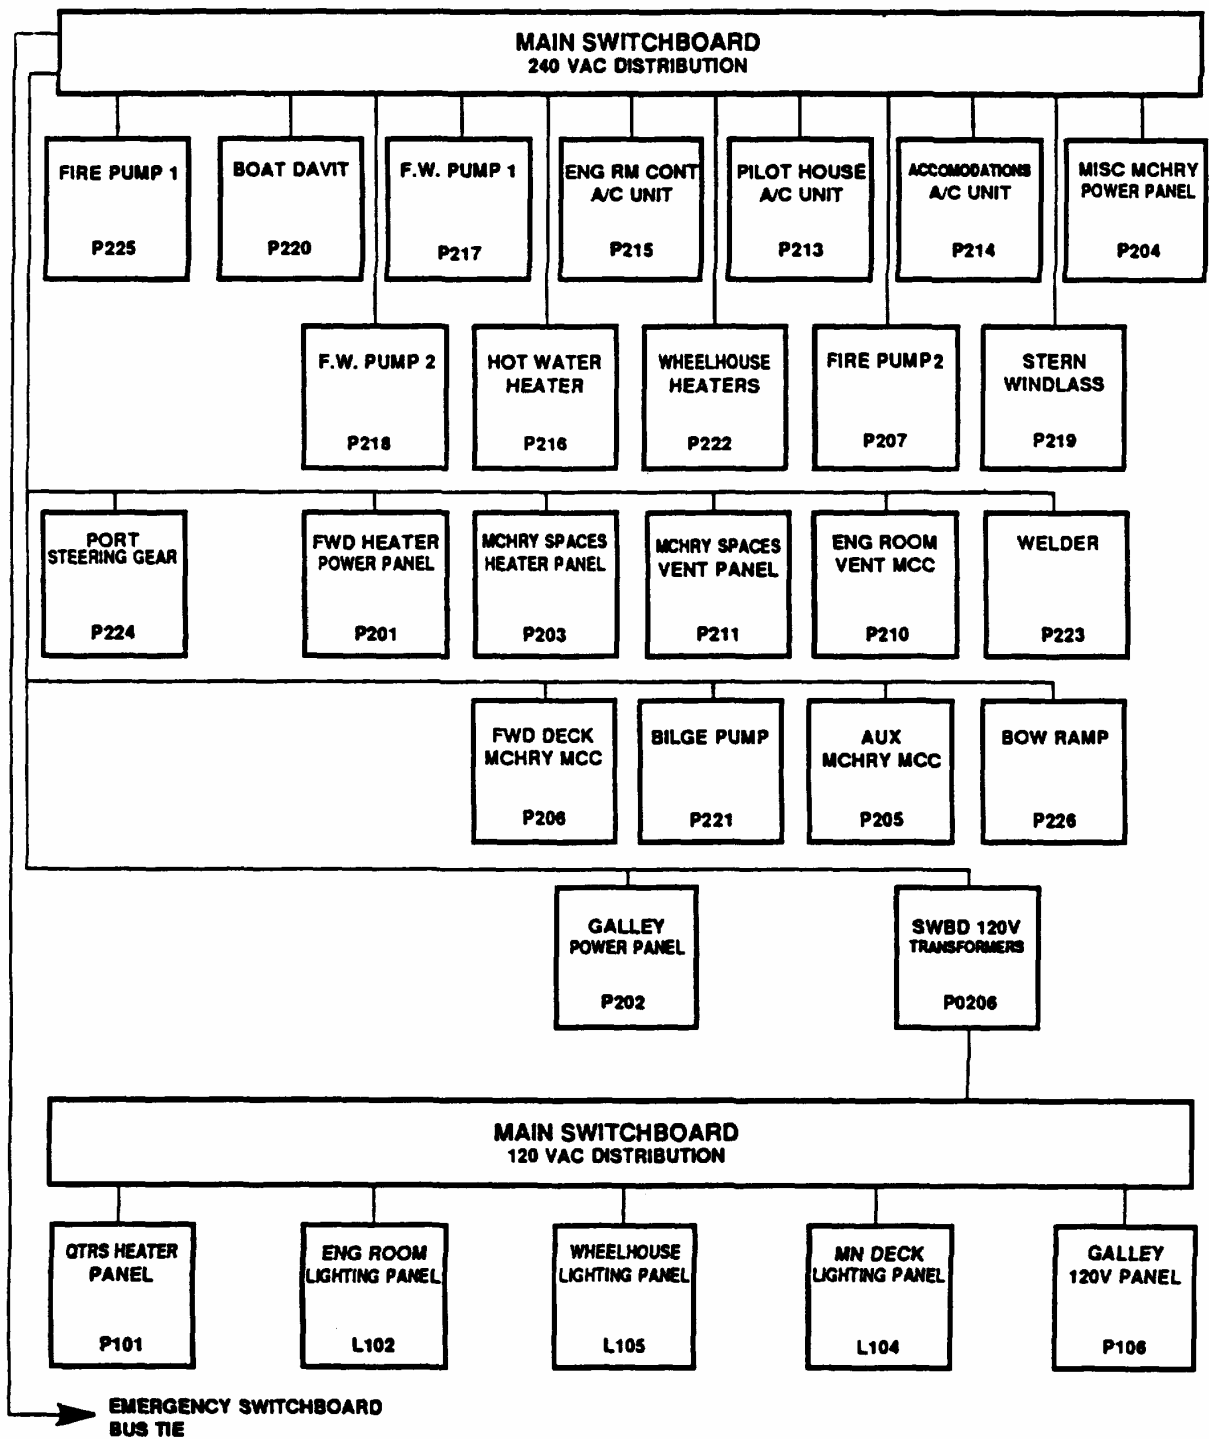

Figure 1-2. Main Switchboard.
c. Main Switchboard. The main switchboard (FIGURE 1-2), located in the engine room operating station, provides generator selection, shore power selection, and power distribution for ship's service 240 Vac and 120 Vac power. Distribution of 120 Vac is accomplished by ship's service 120 Vac transformers located in the engine room operating station. The emergency switchboard bus tie provides 240 Vac to the emergency switchboard. Power selection is provided by closing circuit breakers on the switchboard. Power monitoring is provided by ammeters, voltmeters, frequency meters, and synchronization meters. Controls are provided for manual and automatic generator voltage regulation and generator engine speed regulation. The switchboard bus tie also serves as an emergency 240 Vac power feedback source for the main switchboard from the emergency switchboard, to power selected equipment systems during emergency power conditions. An interlock system is incorporated into the switchboard to prevent shore power from being applied to the switchboard while generator power is applied. The interlock system also prevents the emergency switchboard emergency generator circuit breaker from being closed.